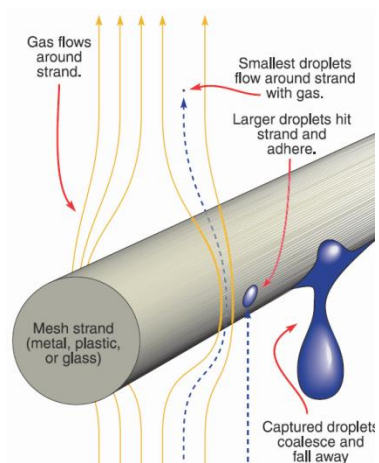

Figure 1: The effect of media large strand size
1. The filter media fiber's cross sectional diameter is large enough so as to allow smaller oil droplets to float through the air spaces within the filter bundle. See figures 1 and 2.
2. Based upon the cross-sectional area of the filter media (and its enclosure), the velocity of the blow-by gasses passing through the filter is not high enough to encourage an optimized rate of "inertial capture", the result of which is shown in blue (figure 1). The faster a droplet approaches a strand, the greater its momentum and the more likely it is to collide with the filter media strands. By comparison, smaller, lighter droplets have a much easier time floating past the large diameter media strands that are very common in many catch cans. And since gas velocity is simply the flow of gasses divided by the cross-sectional area of the filter media, larger media enclosures shown in "PCV Line Oil Removal 102", (pages 5-8) keep gas velocity at a capture efficiency disadvantage. Add to this design inadequacy the relatively large diameter filter media strands and it's no wonder plenty of oil works its way into the engine's intake, valves and pistons.